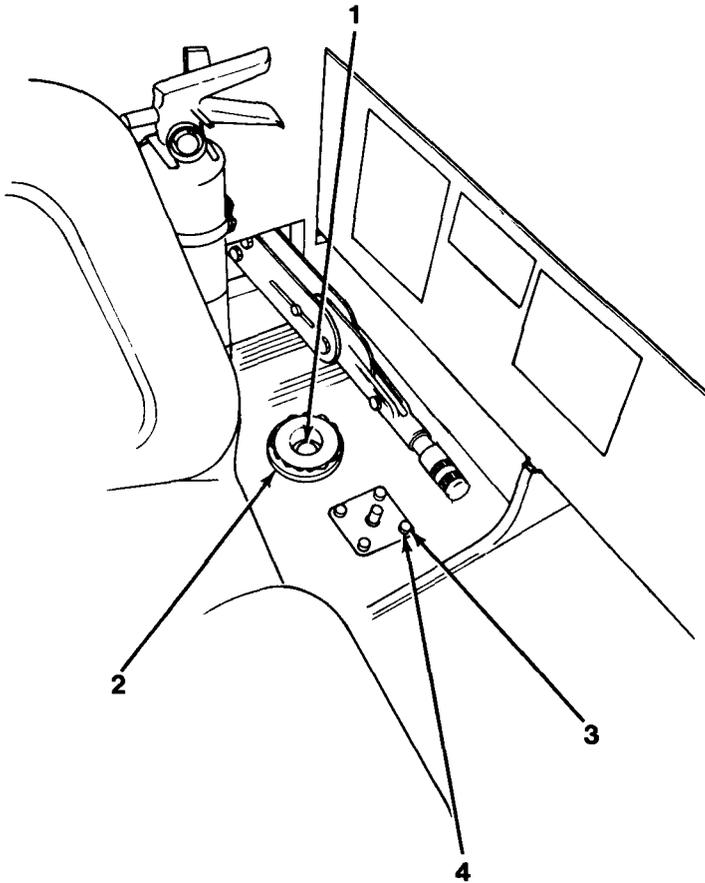

Figure 13-1
4. Remove set screw (1) and knob (2, Figure 13-1).